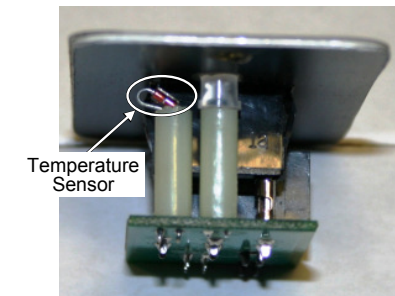

Figure 2, Locating Sensor
1. Find the temperature sensor behind the remote switch's front plate. It is a small reddish looking device close to the metal front plate (see Figure 2).